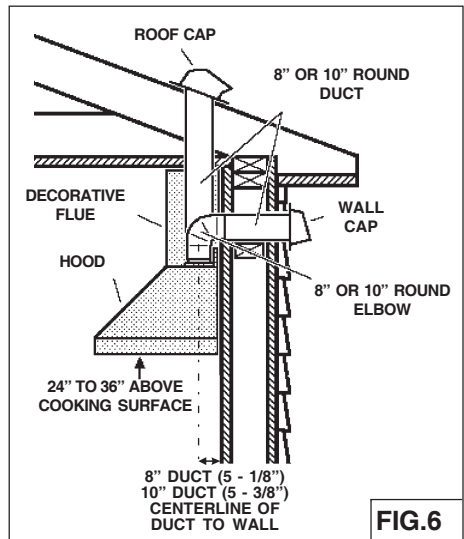

FIG.6
4. Install a roof or wall cap. Connect 8" WPPIQ (or 10" WPPIQT) round metal ductwork to cap and work back towards hood location. Use duct tape to seal the joints between ductwork sections (Fig.6).